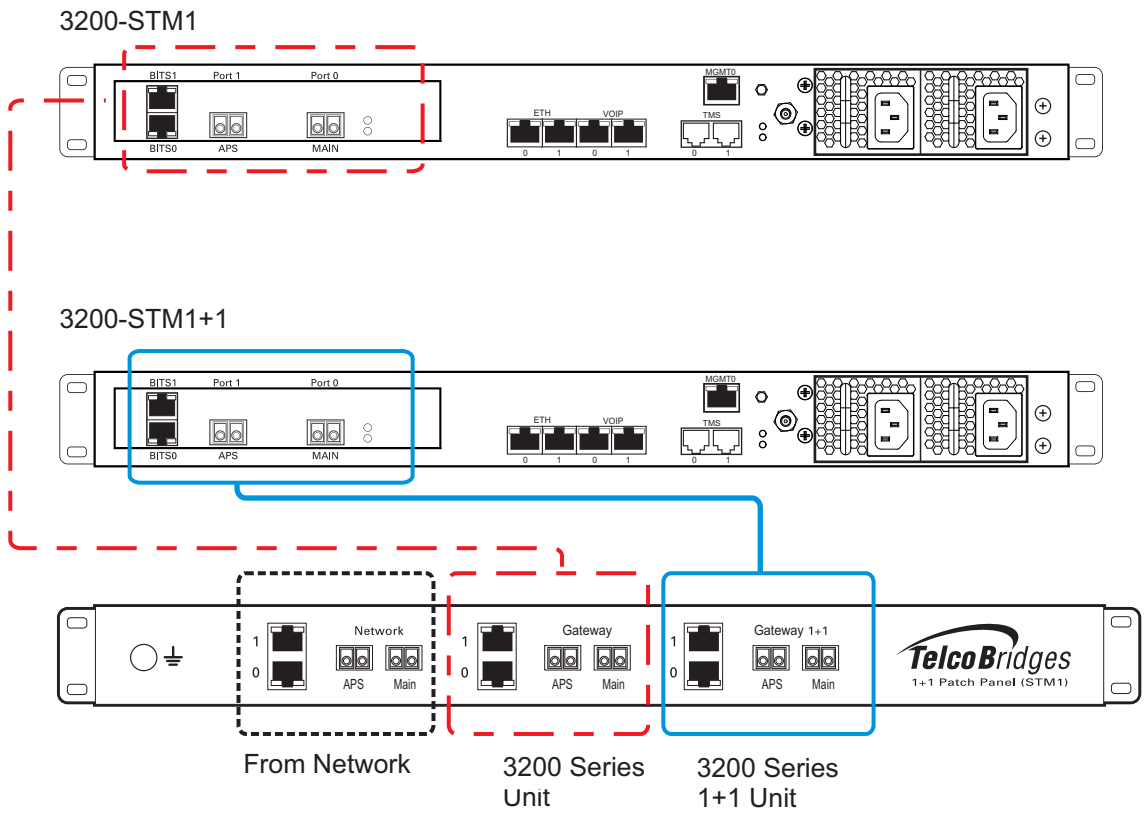

Figure 2.15 3200-STM1 and 3200-STM1 +1 connecting to the STM1 1+1 patch panel
A 3200-STM1 and 3200-STM+1, each with one main and one backup OC3 or STM1 port enables the connection to OC3/STM1 lines. See Figure 2.15 on page 35. Refer to Table 2.4 on page 34 for a listing of optical interfaces. The default SFP module for OC3/STM1 connection is SMF, intermediate reach, (SFP-OC3-IR1) 1310 nm with LC type connectors.
1. Connect each OC3/STM1 line of the network section of the 1+1 patch panel to the remote equipment. See Figure 2.15 on page 35.